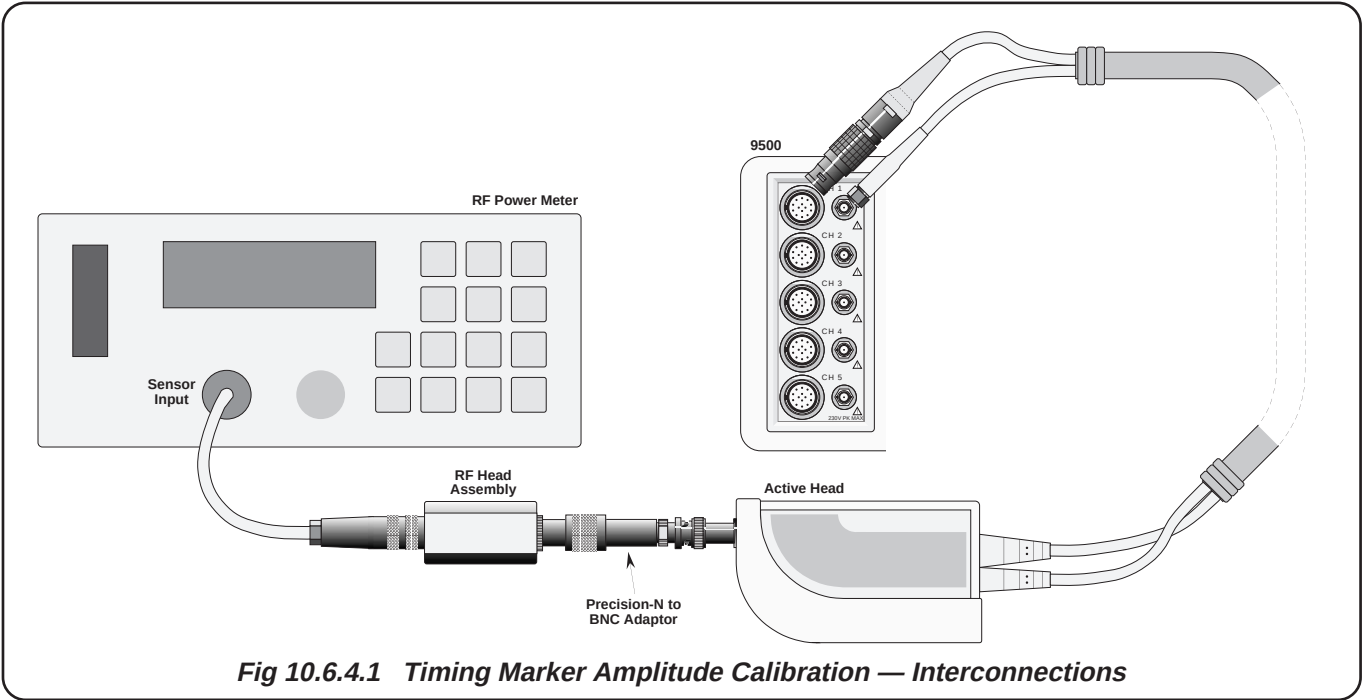

Fig 10.6.4.1 Timing Marker Amplitude Calibration — Interconnections
- 1. Ensure that the 9500B is connected to the Power Meter as shown in *figure 10.6.4.1*, satisfies the equipment requirements in *para 10.6.2.2*, and that both instruments are powered on and warmed up.